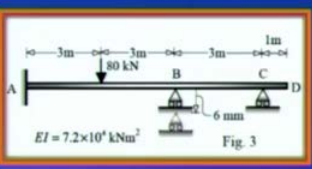

Fig. 3
3. Analyse the continuous beam shown in Fig. 3 by any method of your choice, considering the effects of the applied load and support settlement shown, and find the bending moments at A and B.